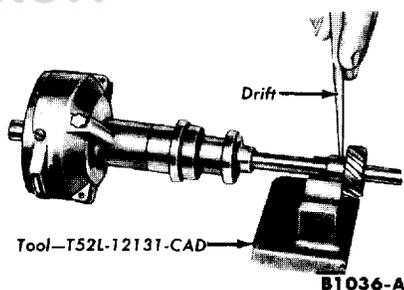
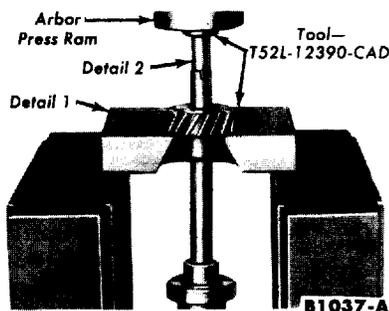

FIG. 6—Gear Pin Removal or Installation
FIG. 7—Gear Removal
13. If the gear and shaft are to be used again, mark the gear and shaft so the pin holes can be easily aligned for assembly. Remove the gear roll pin (Fig. 6), then remove the gear (Fig 7).
8. Remove the distributor from the press. Install the gear retaining pin (Fig. 6).